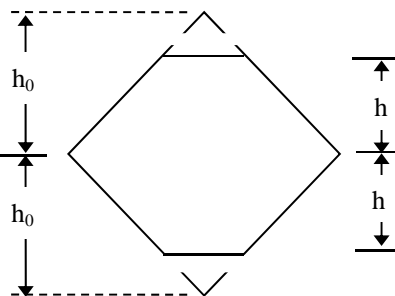

Fig. 3
- A portion of the square bar is removed by milling as shown in Fig. 3. Determine the ratio h/h_0 for which the section has the maximum moment carrying capacity about its horizontal neutral axis.